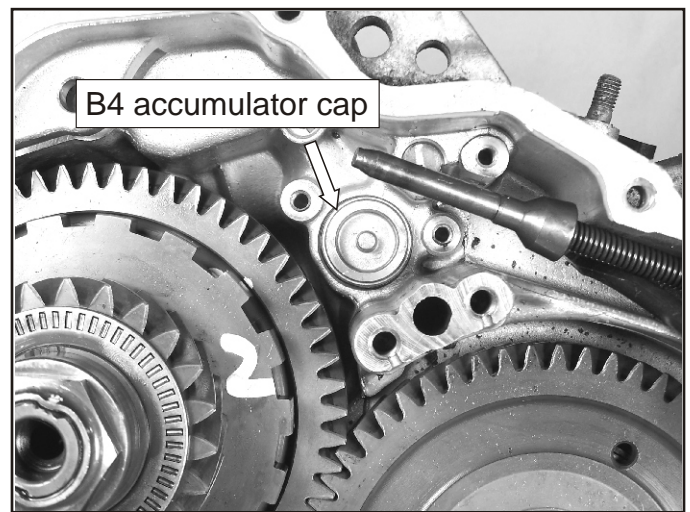

Figure 59
16. Remove the B4 accumulator cap, as shown in Figure 59.